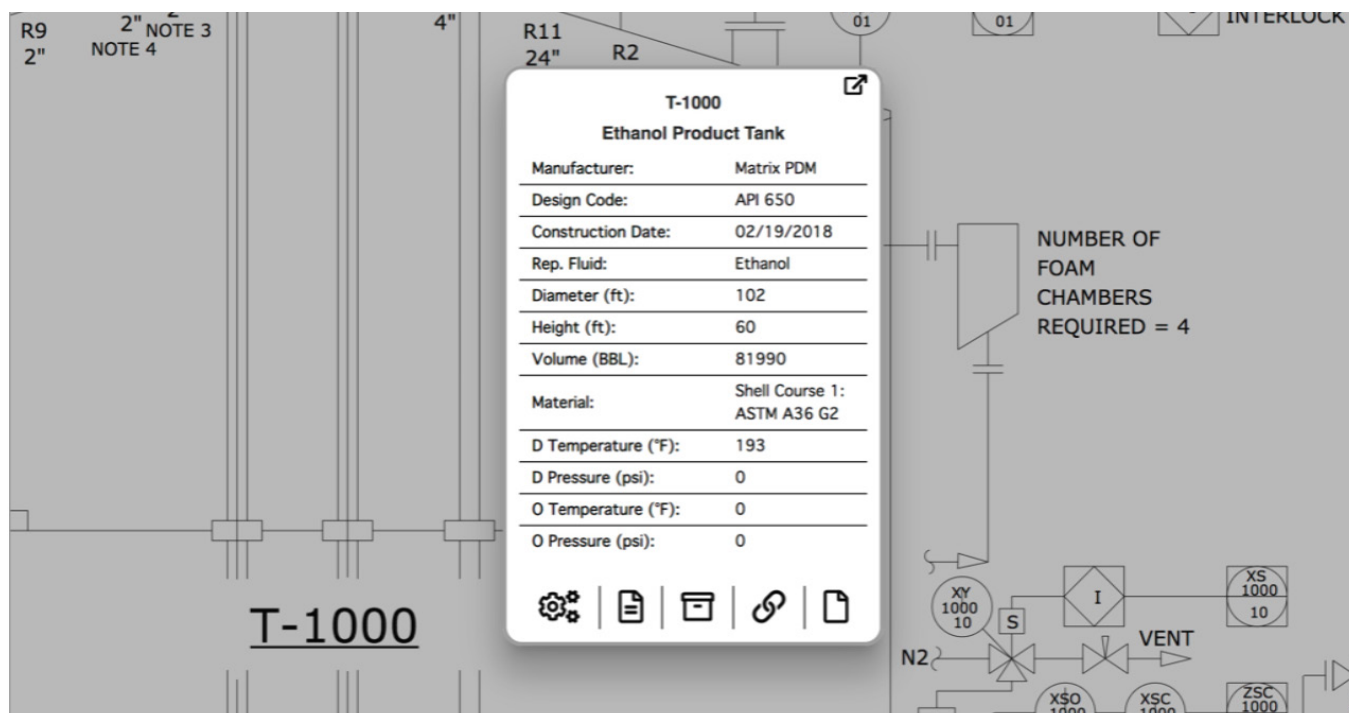

Figure 6: Information Pod Example
- » Information/calculation pods that can pop-up over equipment showing additional information associated to the asset (as shown in Figure 6)
The example in Figure 6 shows information from external data sources organized in a pop-up pod which is shown when the user clicks on an asset. The pod contains user-configurable tabs to organize information from multiple sources for quick access.
Templates/Data Pods are configurable by asset type to display relevant information and are then accessible for all instances across all drawings for that asset type. The example in Figure 6 shows information for a tank, but pods are also available for instrumentation, piping, fixed/rotating equipment and more based on end user roles and requirements. Pod data can include operating/design properties, maintenance history, inspection history, file linkage and more.